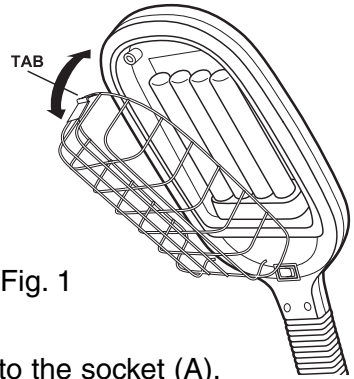

Fig. 1
- Wall Mount:** Using #6 screws (not included) secure the clamp to the wall and then insert the pin into the hole of the clamp. (Fig. 1)
2. Remove metal wire guard by depressing the tab and lifting it out. (See Fig. 1)
- Snap tab into place as shown (Fig. 1)